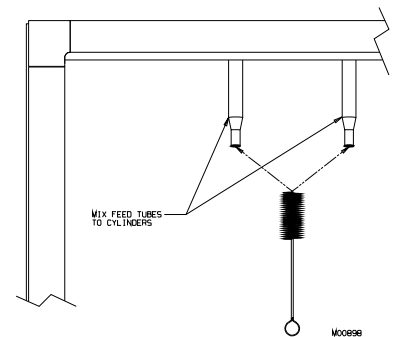
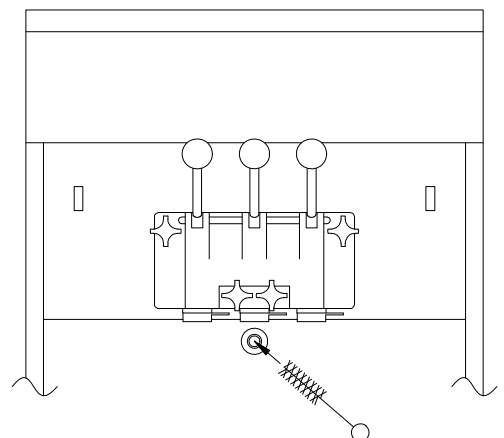

Figure 6-9 Brush inside of cylinder mix feed tubes.
Figure 6-10 Brush inside of drain tube
4. Using a warm dish detergent solution thoroughly brush; the mix feed tubes from the refrigerated cabinet to the cylinders as shown in figure 6-9, the inside of the cylinders including the back wall, and the inside of the drain tube, as shown in figure 6-10. Repeat with sanitizing solution and rinse with clear water.